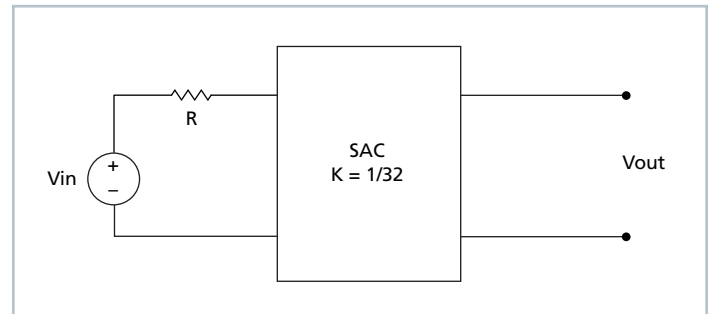

Figure 2 — K = 1/32 Sine Amplitude Converter™
The use of DC voltage transformation provides additional interesting attributes. Assuming for the moment that R_{OUT} = 0 Ω and I_Q = 0 A, Eq. (3) now becomes Eq. (1) and is essentially load independent. A resistor R is now placed in series with V_{IN} as shown in Figure 2.
Assuming that R = 1 Ω, the effective R as seen from the secondary side is 0.98 mΩ, with K = 1/32 as shown in Figure 2.